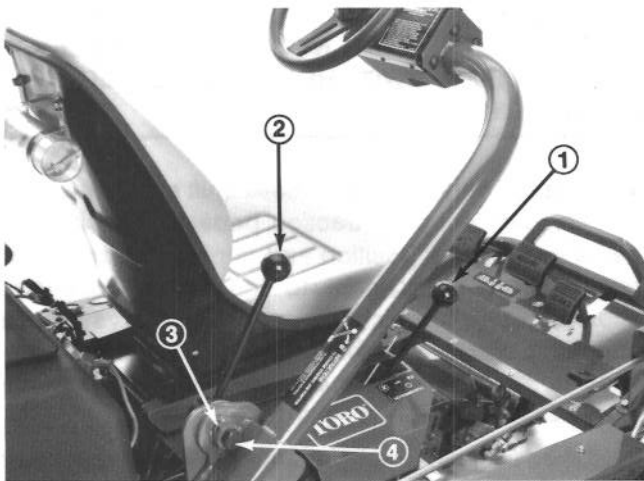

Figure 17
SHIFT SELECTOR (Fig. 17) – Located on the top of the right hand panel. Provides two (2) traction selections, plus a “NEUTRAL” position. It is permissible to shift from one selection to another while the Greensmaster 3100 is in motion. No damage will result.
STEERING ARM LOCKING LEVER (Fig. 17) – Rotate lever rearward to loosen adjustment, raise or lower steering arm for operator comfort, then, forward to tighten adjustment.